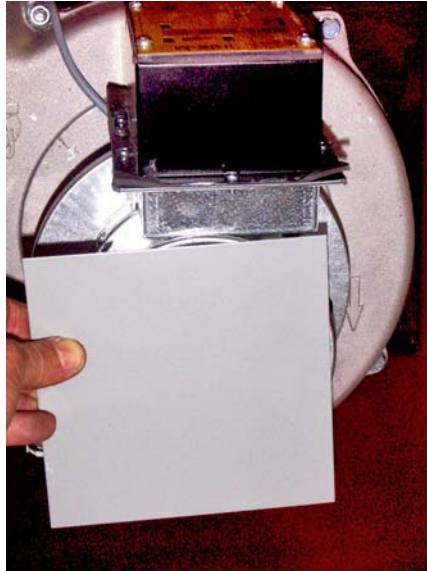

Fig. 12 – Fan Inlet Cover (Automatic Tester)
12. **(Automatic Testers Only)** Once you have set your pointer just below the “0” position, place a flat piece of sheet metal, cardboard or plywood that is large enough to completely cover over the fan's inlet opening prior to turning on your duct leakage tester. Be sure what you use is not so weak that it can get pulled into the inlet of the fan. **(Note: This procedure prevents the tester from possibly over pressurizing your duct system while the damper is open at initial start-up and jeopardizing the integrity of your initial duct sealing process. See Figure 12 example below):**
16. If your damper cannot achieve further minimum static pressure readings, then place a flat piece of sheet metal, cardboard or plywood that is large enough to cover over the fan's inlet opening to obtain minimum pressure readings. **(See Figure 12 example above)**